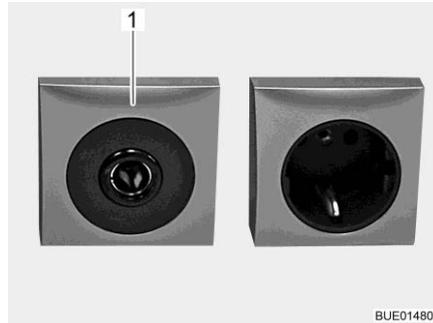

Fig. 179 12 V/10 A socket
- ▷ Only connect devices with a maximum of 10 A to the sockets (Fig. 179,1) of the 12 V power supply.